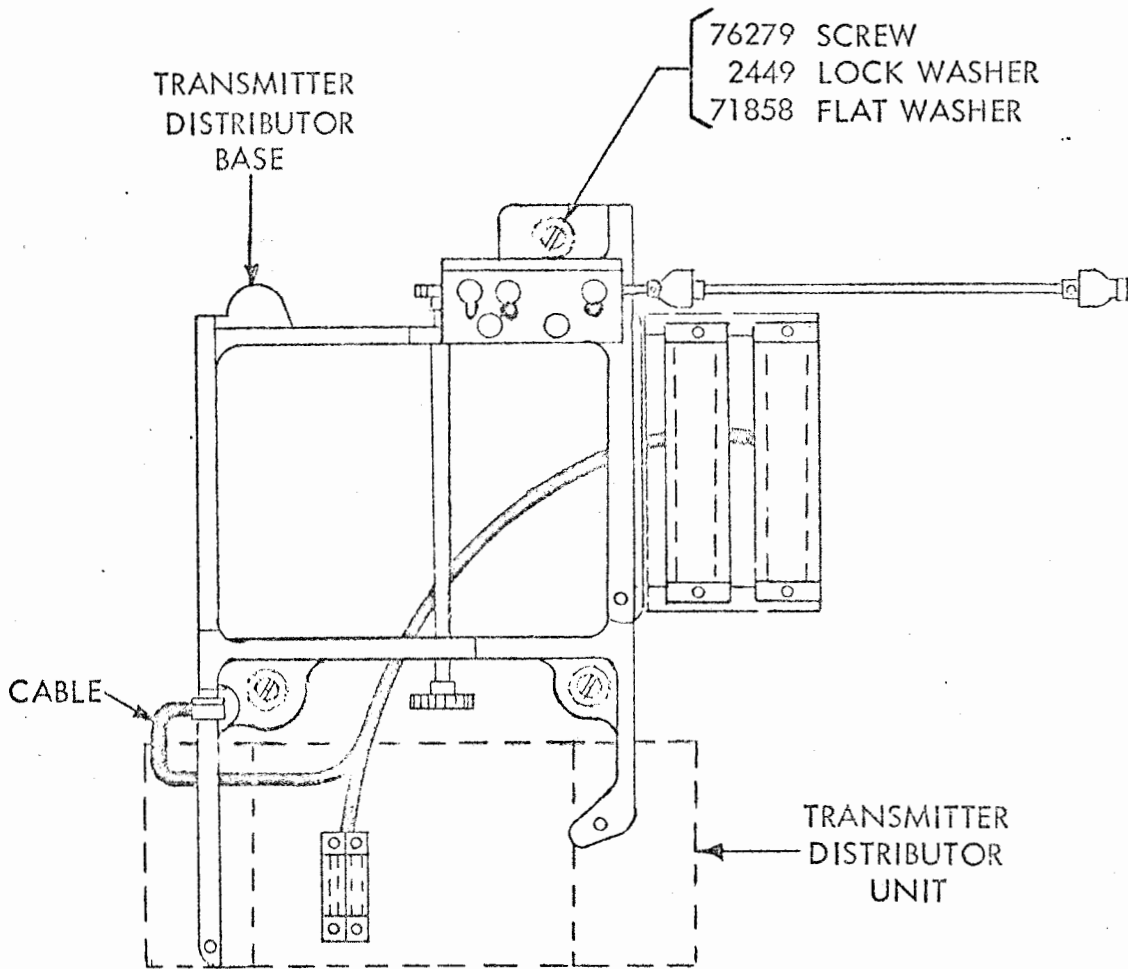

FIGURE 5. TYPICAL TRANSMITTER DISTRIBUTOR UNIT AND BASE ARRANGEMENT
(2) Remove and discard the 158271 Gear Guard on the TD Base.
(3) On units not equipped with variable speed drive, install the gears (set of gears must be ordered as separate item) for the desired speed of operation on the shafts of the gear bracket assembly as shown in Figure 5. Mounting hardware is in a bag tied to the base.
(4) Remove the gear bracket assembly and the 161805 Gear Guard.